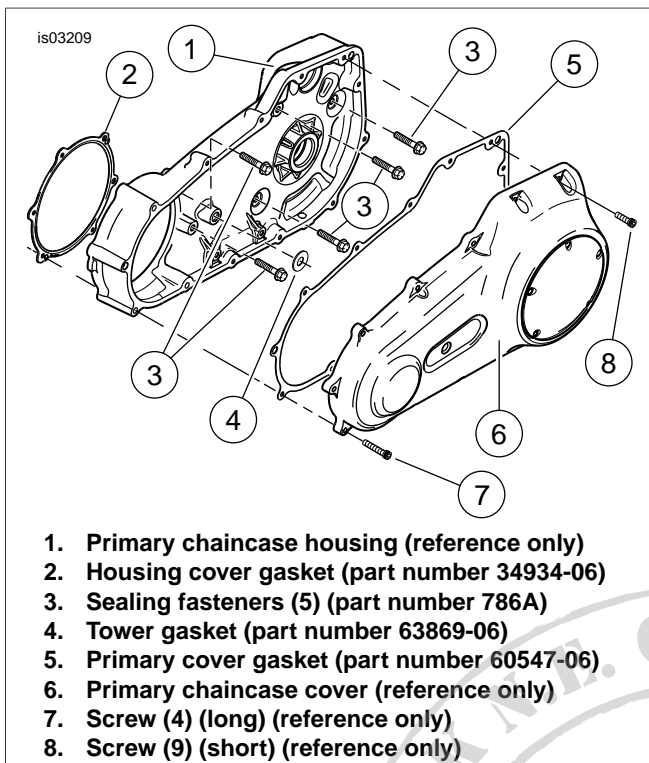

Figure 2. Primary Chaincase Cover and Housing Components
3. From the kit, press hole plugs (8) into the screw holes on the frame where the stock footrest assembly was mounted.
4. Remove plugs from forward control frame mount (I) and discard.
5. Remove the foot shifter lever (A) and shifter peg (D). Discard the old foot shifter lever (A). Save the foot shifter lever hardware and shifter peg (D) for future use.
6. See Figure 2. Remove the primary chaincase cover (6) and primary chaincase housing (1). Refer to your model motorcycles Service Manual for removal procedures.
13. See Figure 2. Using the gaskets and O-rings from the kit, install the primary chaincase housing (1) and primary chaincase cover (6). Refer to your model motorcycles Service Manual for installation procedures.